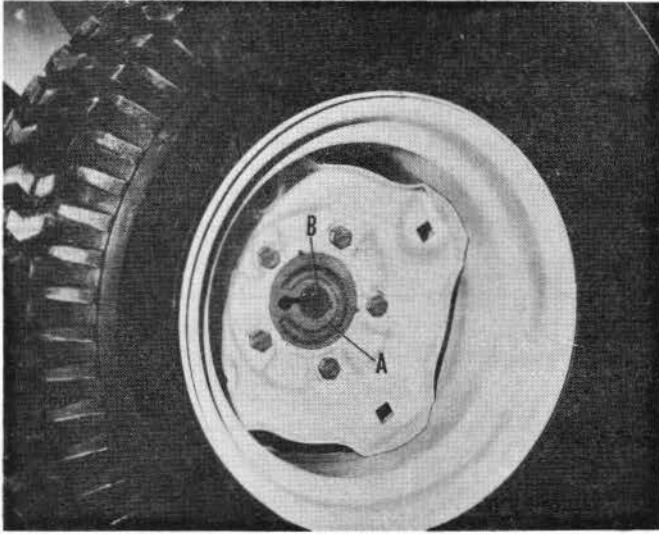

FIG. 18
1. For greater stability on hillsides, move both rear tractor wheels so that wheel hubs (A), are flush with ends of axle (B). Refer to Fig. 18.